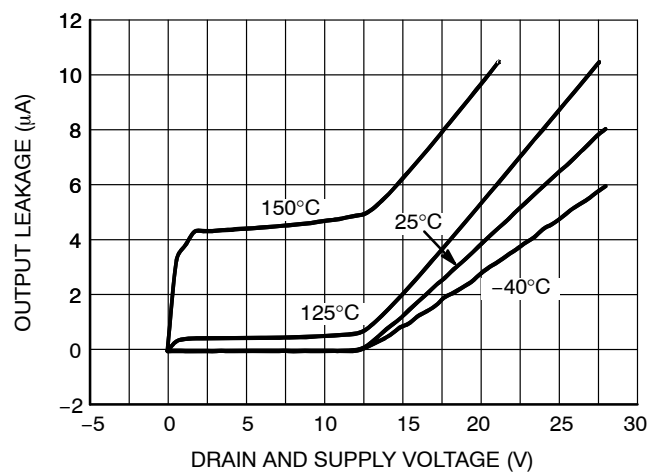

Figure 15. Standby Output Leakage vs.  $VS$
- Refer to Figure 15 for output leakage current behavior.